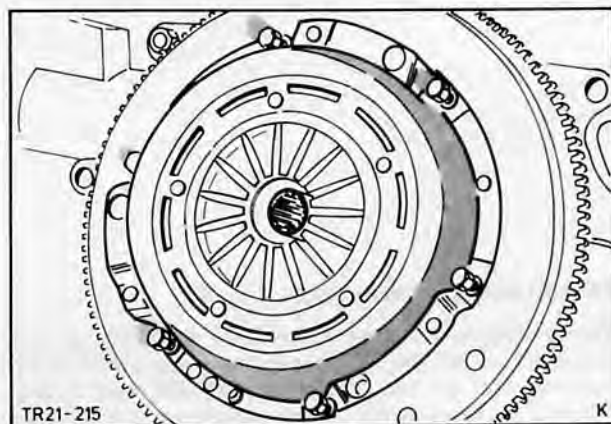

Fig. 29. Remove clutch pressure plate with clutch disc from flywheel
2. Remove clutch pressure plate (6 bolts) and clutch disc from flywheel, Fig. 29.